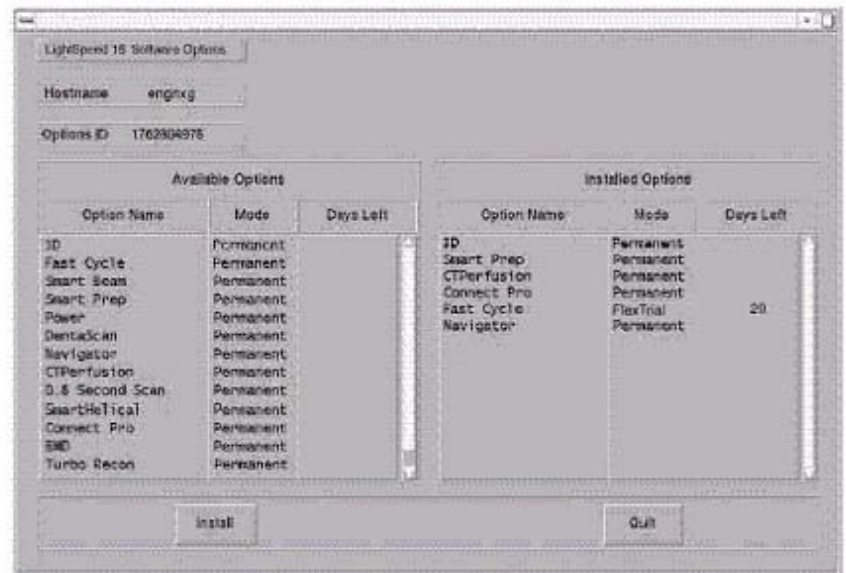

Figure 9-15 Software Options screen
- 8.) Click OK. Available options appear on the Software Options screen (Figure 9-15).